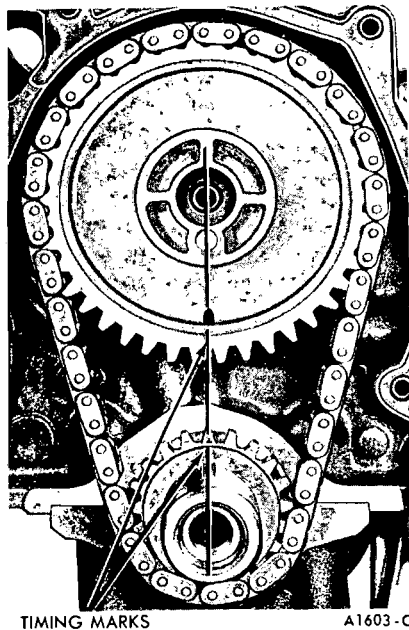
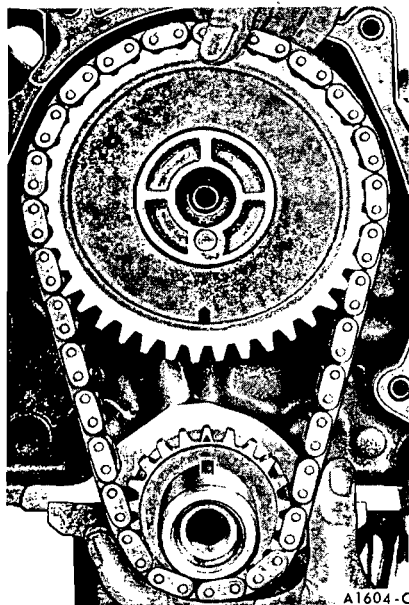

FIG. 38—Aligning Timing Marks
FIG. 39—Timing Chain Removal or Installation
13. Crank the engine until the timing marks on the sprockets are positioned as shown in Fig. 38.
14. Remove the camshaft sprocket cap screw, washers and fuel pump eccentric. Slide both sprockets and the timing chain forward, and remove them as an assembly (Fig. 39).
1. Position the sprockets and timing chain on the camshaft (Fig. 39). Be sure the timing marks on the sprockets are positioned as shown in Fig. 38.